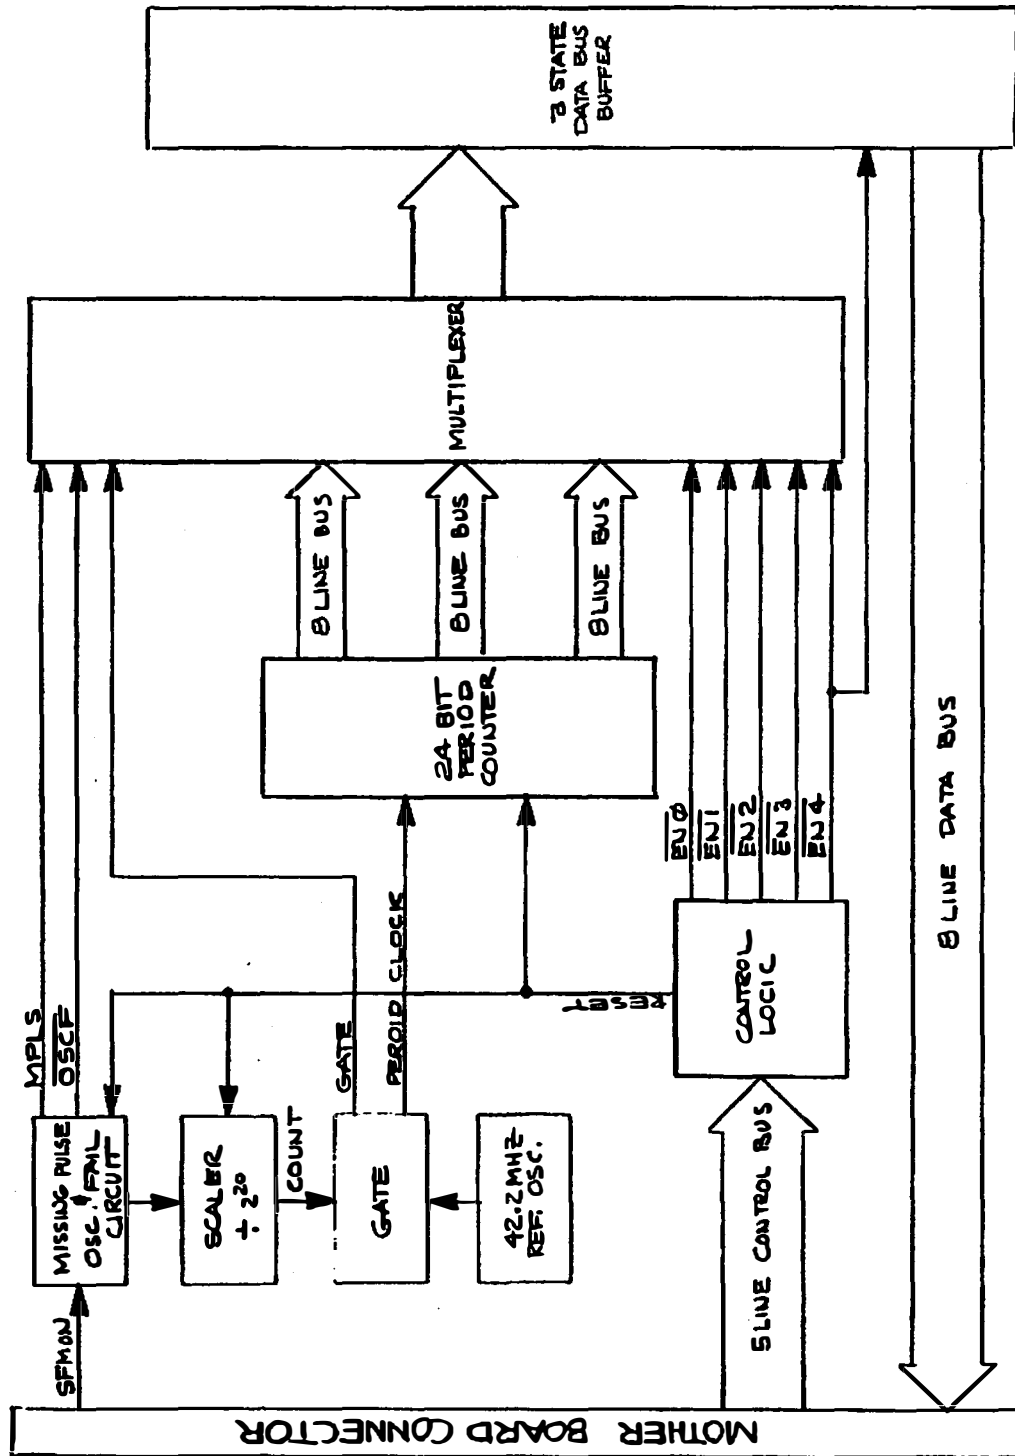

Figure 8-3 Measurement Board, Block Diagram
- b) **MEASUREMENT BOARD:** A block diagram of the Measurement board is shown in Figure 8-3. The Measurement board contains all the circuitry necessary to convert the basic sensor signal to a 24-bit binary digital number proportional to crystal period and to multiplex this number and additional status signals onto the data bus when requested by the microcomputer.